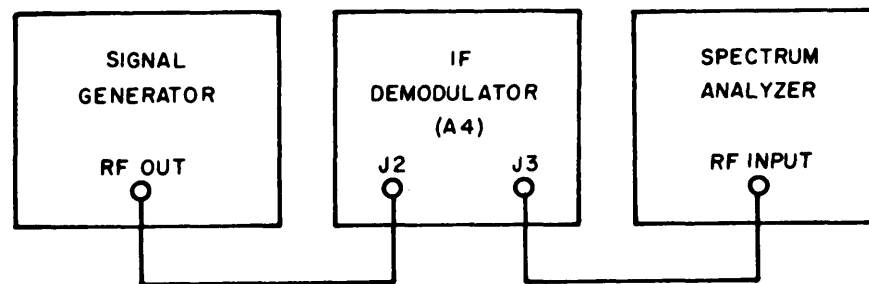

Figure 4-7. Test Setup, IF Demodulator (A4) Alignment
- (1) Construct the circuit as shown in Figure 4-7.